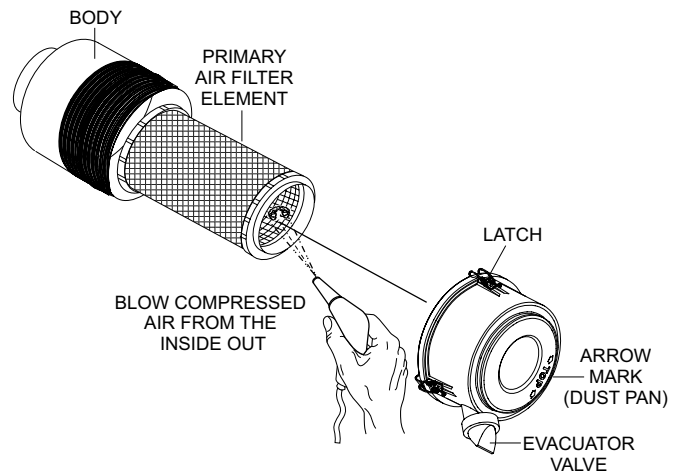

Figure 70. Air Cleaner
Every 250 hours: Remove air cleaner element (Figure 70) and clean the heavy duty paper element with light spray of compressed air. Replace the air cleaner as needed.
1. Release the latches (Figure 70) that secures the cover to the air cleaner body.
6. To clean the primary element (paper air filter) as referenced in (Figure 70), tap the filter element several times on a hard surface to remove dirt, or blow compressed air (not to exceed 30 psi (207 kPa, 2.1 kgf/cm²) through the filter element from the inside out.